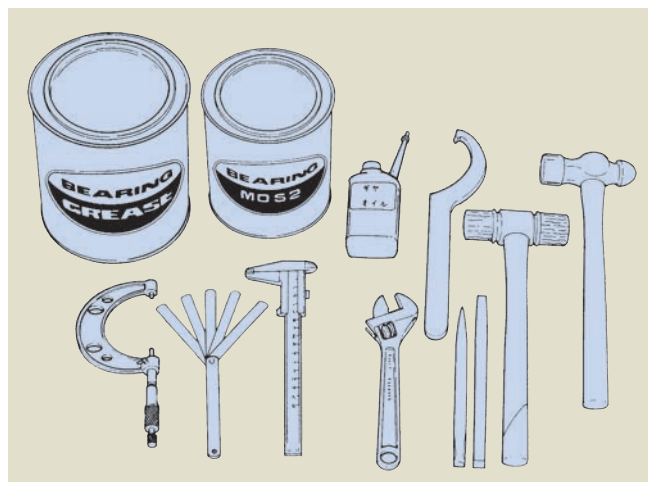
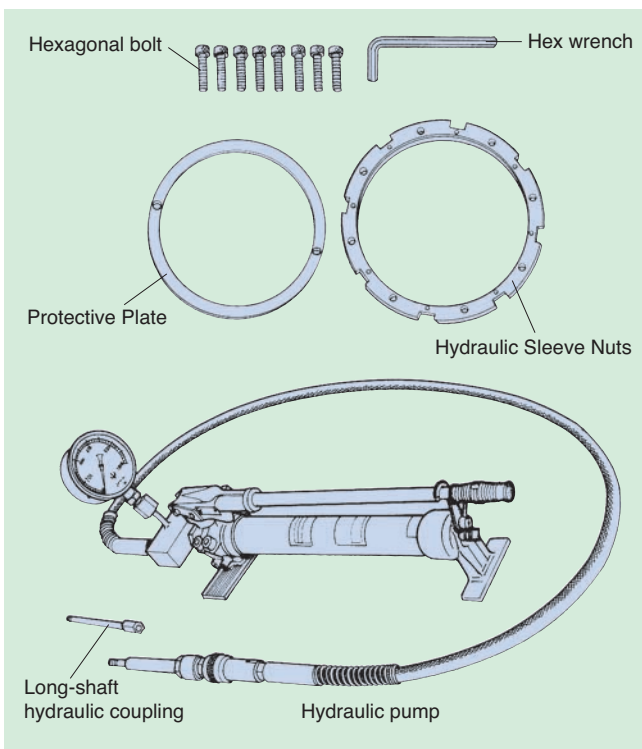

Fig. 2
Fig. 12
- (1) Prepare the relevant tools and lubricants required for assembly work (see Fig. 2).
In addition to the items shown in Fig. 2 on P. 55, prepare a hydraulic pump, hydraulic sleeve nut, protective plate and hexagonal bolts (see Fig. 12 and 13).
Prepare the relevant tools and hydraulic pumps required for assembly and removal work (see Fig. 2 on P55). Other precautions are the same as those listed under 1. Preparation on P. 55.